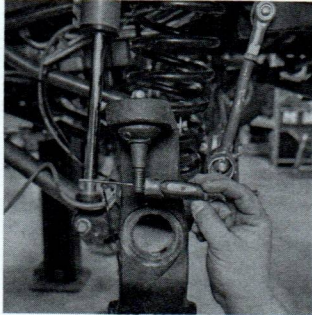

Figure 17. Cotter Pin Alignment Correction
20. Note the orientation of the cotter pin holes in the ball joint studs. We recommend aligning the cotter pin holes so that they are perpendicular to the axle, aligned front to back on the vehicle. If the cotter pin holes need to be relocated, spin the ball studs with a pin through the cotter pin hole. This will make cotter pin installation easier. See Figure 17.